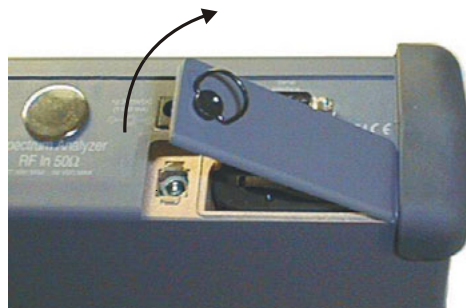

Figure 2-3. Removing the Battery Access Door
3. Lift the door and remove, as illustrated in Figure 2-3.